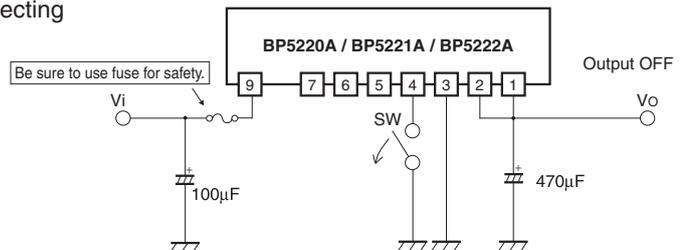

Fig.3
- (2) Switching on and off the output voltage is allowed. The output can be switched off by making pin 4 open (high impedance). (See Fig.3)
- (3) Fine adjustment of the output voltage is allowed. Adjustment of the output voltage can be performed from pin 6 via the resistor by connecting the output terminal (pin 2) or GND. (See application example 3)